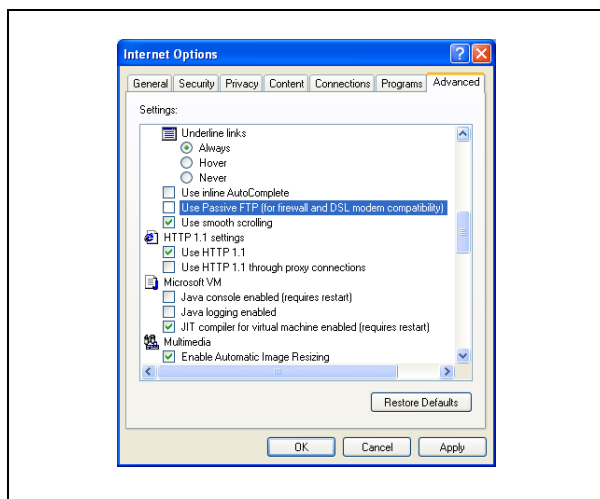

Fig. 3.13 'Use Passive FTP' Setting
- 'Use Passive FTP (for firewall and DSL modem compatibility) is **not** ticked – see Fig. 3.13.